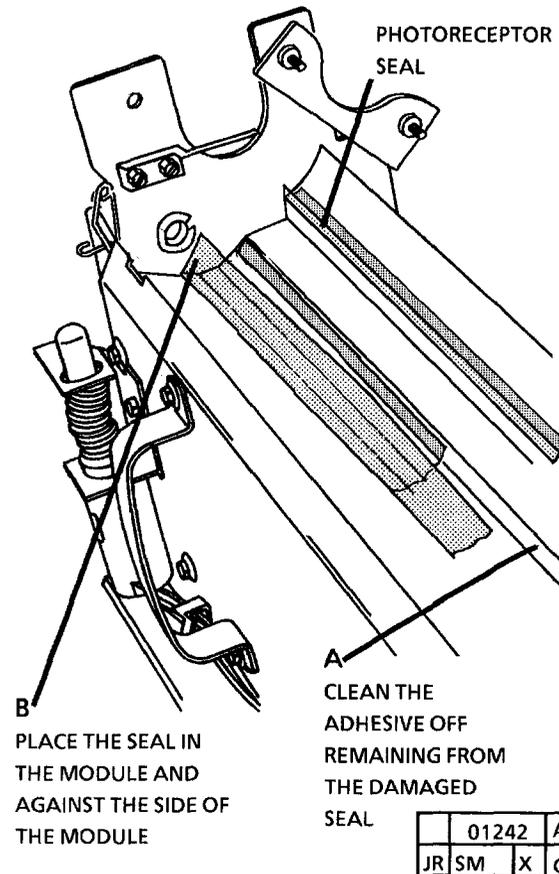

Figure 1. Install the Contamination Seal
1. (FIGURE 1): PLACE THE NEW CONTAMINATION SEAL IN THE XEROGRAPHIC MODULE.